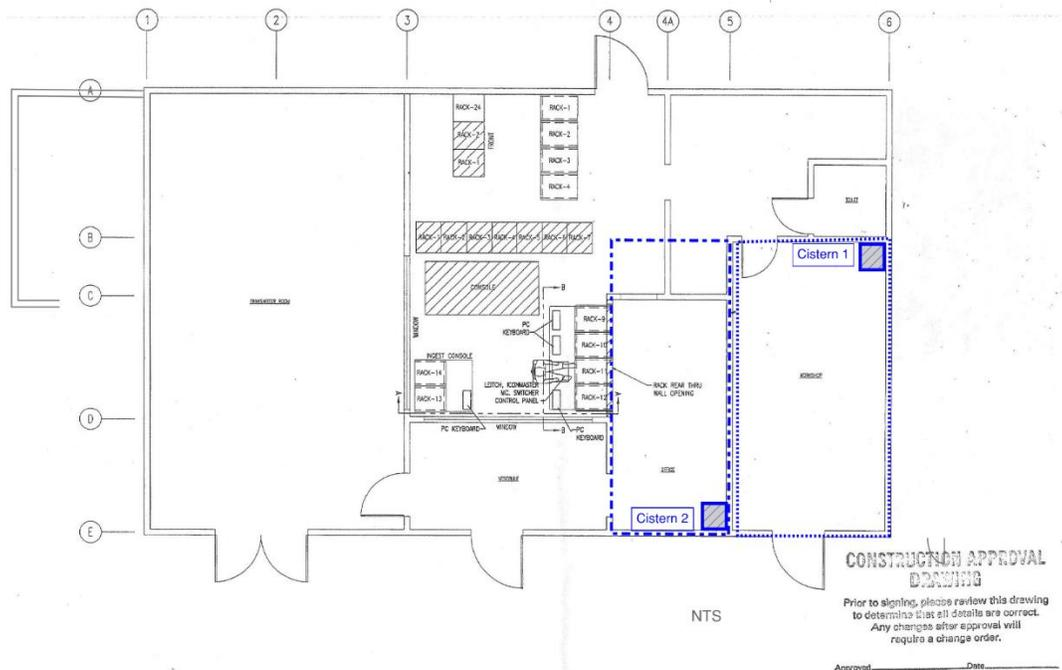

Figure 2 Cisterns
- Contractor will pump out the two, 5,500-gallon cisterns to remove sludge and debris and dispose of properly. Contractor will inspect cisterns for cracks and other damage and repair as needed with epoxy injection or similar method. Review proposed repair method with owner before ordering materials. See Figure 2 for cistern locations